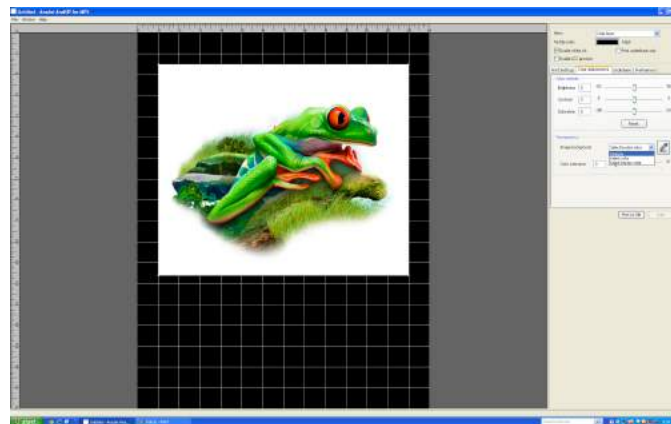
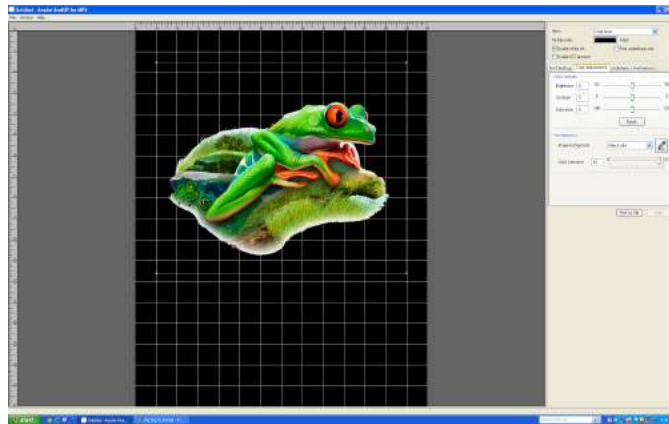

Figure 6.5o: Select Color to be Removed
Figure 6.5p: Color Removed
- To remove all of a color range select Select Color. (Figure 6.5o) Then click the color you want to remove from your image. The selected color will be removed from all of the image. You can increase the range of the color removed by adjusting the Color Tolerance slider. (Figure 6.5p)